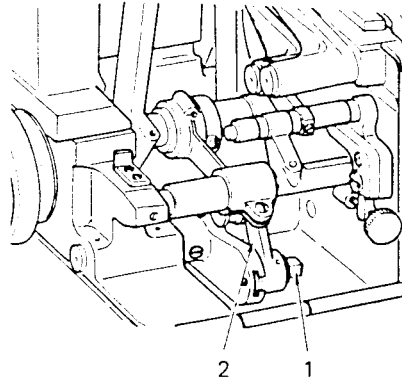

Fig. 14
14. TO REGULATE THE STITCH LENGTH (See Fig. 14)
2. Loosen the stitch regulating screw stud (1) with the wrench supplied with the machine. (See Fig. 14)
3. Move screw stud (1) together with feed lifting link (2) along the slot in the feed regulator.
4. Move screw stud (1) outward for longer stitch and inward for shorter stitch.
5. Firmly tighten screw stud (1) when desired stitch length have been obtained.